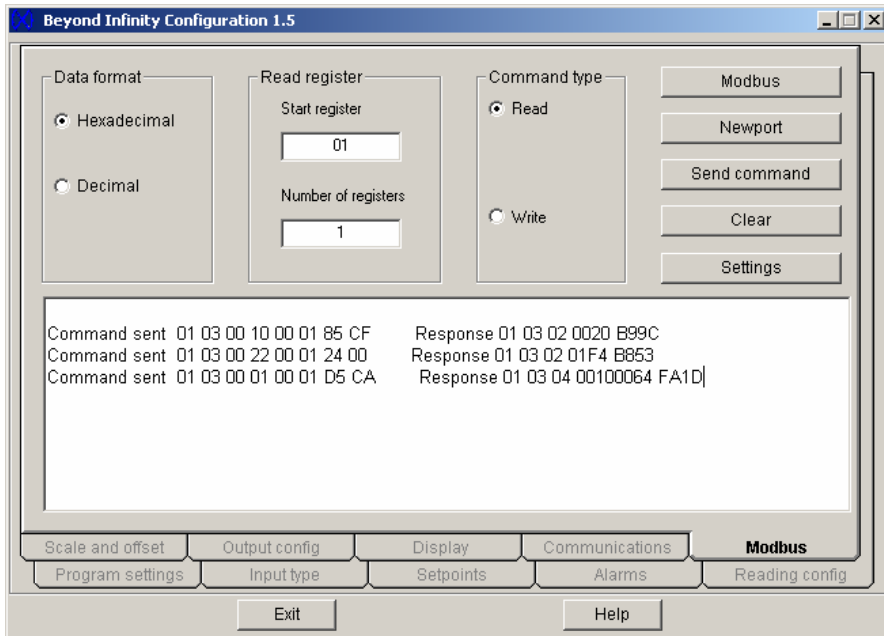

Figure 8.1: Read Command Samples via Infinity Configuration Software.
Example 1: For one byte data registers: 1st data string of Command sent section as shown on the Figure 8.1:
- ❖ 01 03 02 0000 B844 : 1st Command Response on Figure 8.1 which device responded to the 1st read command.
Example 2: For 2 bytes data registers: as shown on the Figure 8.1 as 2nd data string of the Command sent section:
- ❖ 01 03 02 01F4 B853 : 2nd Command Response on Figure 8.1 which device responded to the 2nd read command.
Example 3: For 3 bytes data registers: as shown on the Figure 8.1 as 3rd data string of the Command sent section:
- ❖ 01 03 04 0010 0064 FA1D: 3rd Command Response on Figure 8.1 which device responded to the 3rd read command.